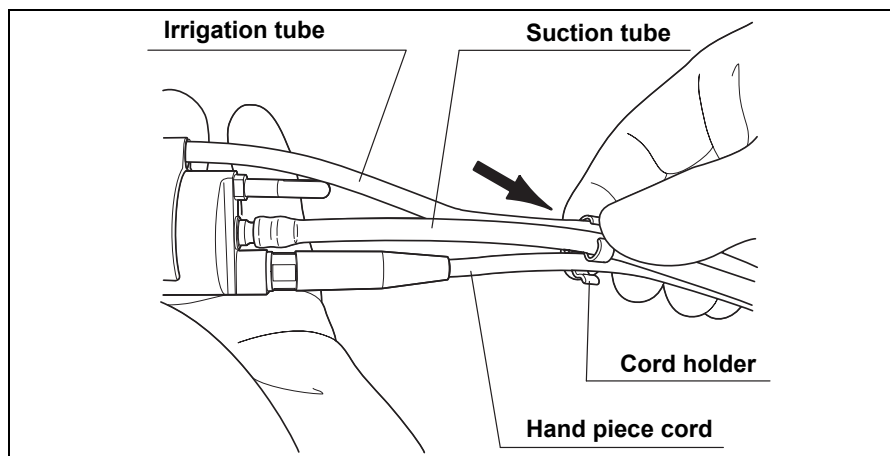

Figure 4.12
4. Attach the cord holder on the irrigation/suction tube to the hand piece cord. Be careful not to twist or bend the cord or the tube while doing so (see Figure 4.12).